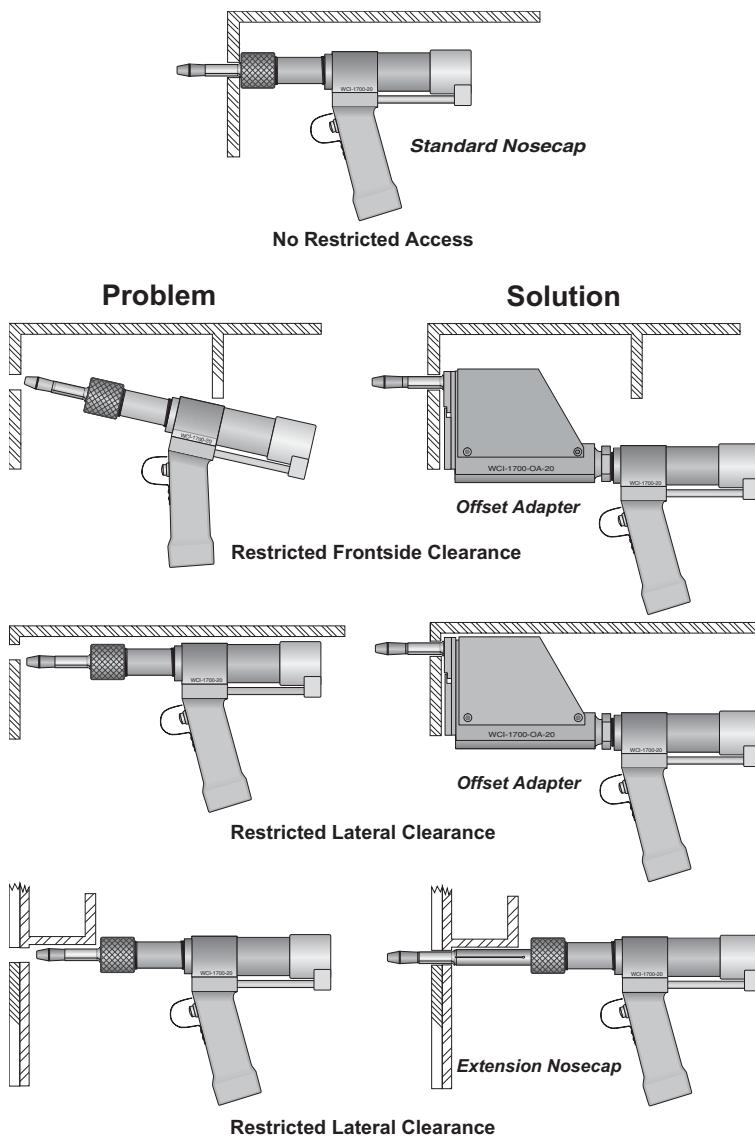

Figure 2-03 — Restricted Access Problems and Solutions
- 2.12 **Access Restriction** - A term used to refer to areas which contain obstructions that prevent the coldworking of holes utilizing standard tooling. These obstructions may be backside to the hole, frontside to the hole, or laterally to the hole. For these types of restrictions, utilize either an Hydraulic Offset or Puller Gun/Offset Adapter. Ref. Fig. 2-03.